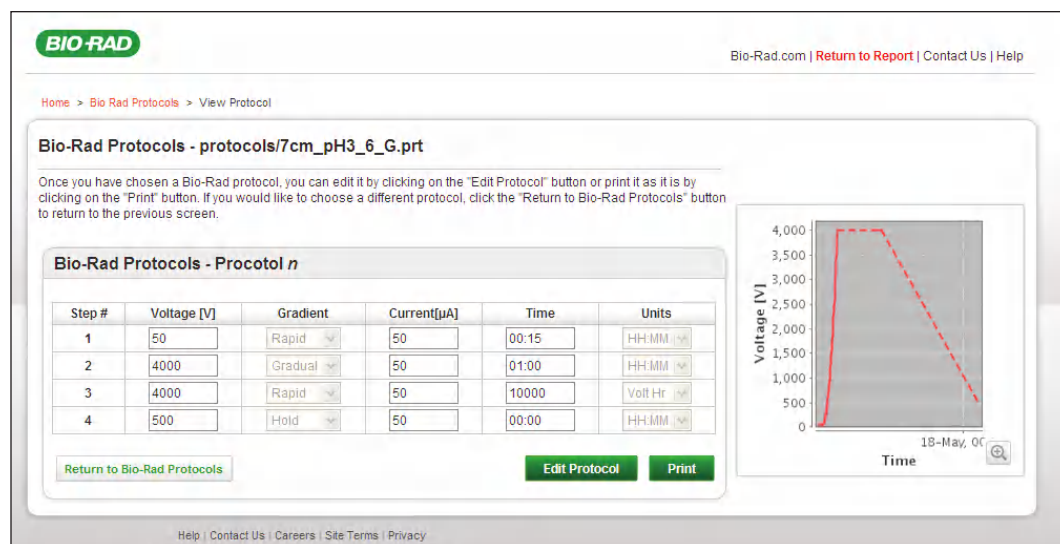

Fig. 6.3. PROTEAN i12 Reporter Bio-Rad Protocols screen.
- Click **View Bio-Rad Protocols** to open the Bio-Rad Protocols screen, which displays all Bio-Rad preprogrammed protocols. Click on a protocol to view its details (Figure 6.3). Click **Edit Protocol** to edit the settings and save as a new protocol. You can then print the new protocol or upload it into the PROTEAN i12 IEF cell